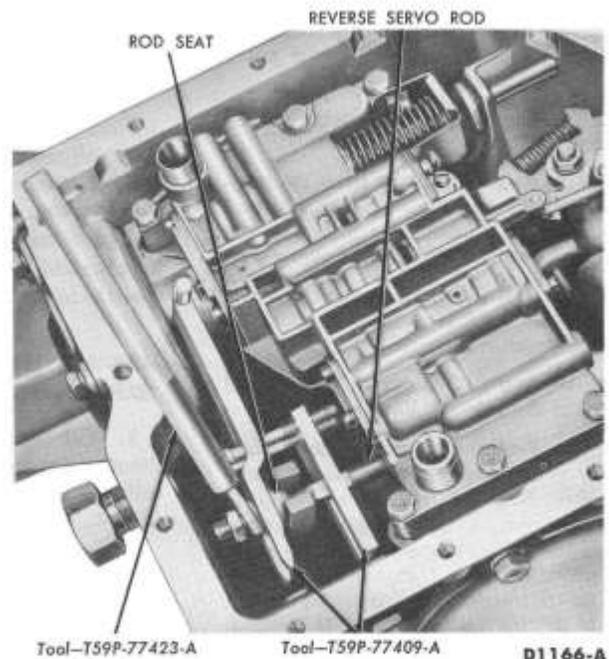

FIG. 7—Reverse Band Adjustment
3. Loosen the rear servo piston rod locknut and adjusting nut (Fig. 7).
5. Back off the piston rod locknut so that the wrench shown in Fig. 7 can engage the adjusting nut. Tighten